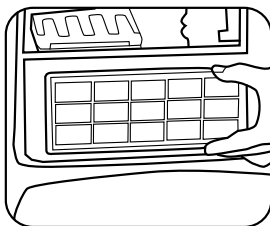

Fig. 6
2. Remove the foam filter from the front of the bag compartment (Fig. 6).